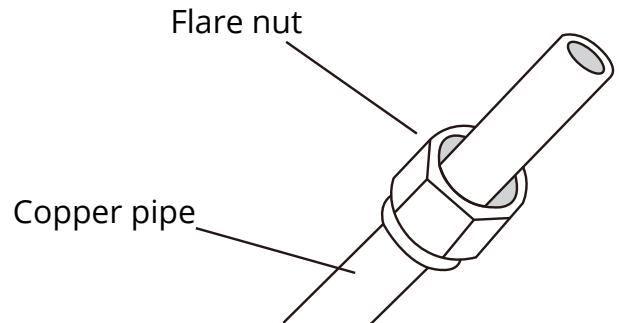

Fig. 2.11
3. Remove the cut-off valve of outdoor unit and take out the flare nut from the bag of indoor unit accessories. Fit the flare nut on the pipe - see **Fig 2.11**.